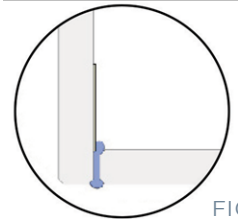

FIG.12
- Gently place glass to glass panel into siliconed floor channel and tilt gently upwards until it joins to glass to wall panel (FIG 12). Ensure there is no side to side movement while placing panel as this will smear silicone